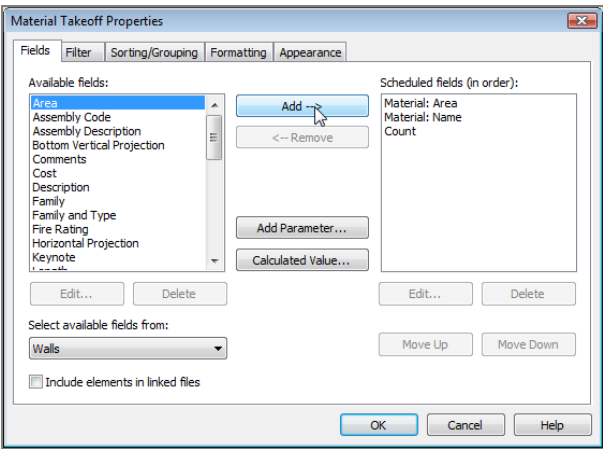

FIGURE 11.27: Adding the materials
4. In the next dialog box, add the following fields (see Figure 11.27):